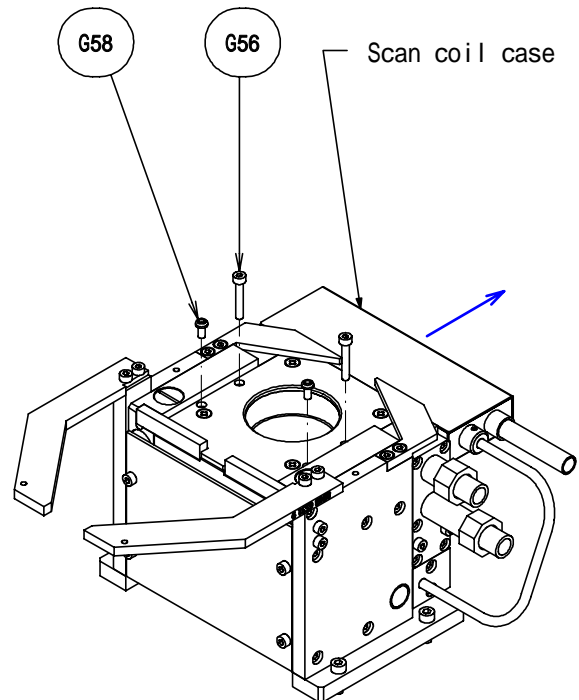

Fig.19
2. Remove the bolts (G56, G58) and remove the scan coil case in the direction of the arrow ( ) (Fig. 19).